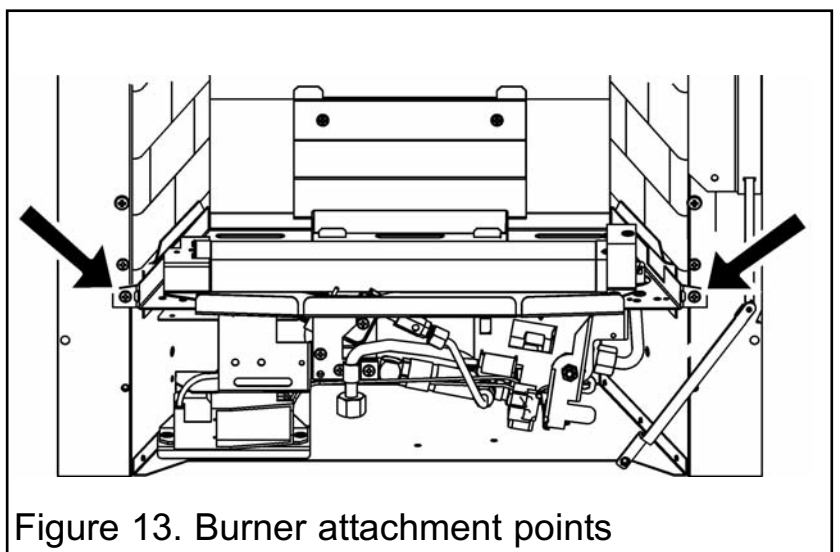

Figure 13. Burner attachment points
3. Detach the burner unit from the convection box by removing two screws (See figure 13). Lift the burner unit clear.